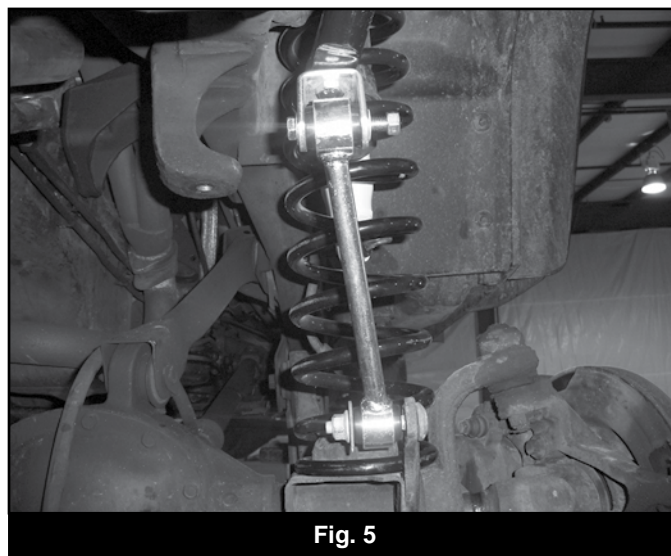

Fig. 5
22. Attached the new sway bar links to the axle mount with the factory hardware and to the new sway bar u-bracket with  $3/8$ " x 2-1/2" bolts, nuts and washers (BP 746) run from inside out. The end with the smaller ID sleeve will mount to the u-bracket. When mounted correctly, the links will taper in toward the center of the vehicle as the run from the axle to the sway bar (Fig 5). Torque the factory hardware to 55 ft-lbs and  $3/8$ " hardware to 30 ft-lbs.